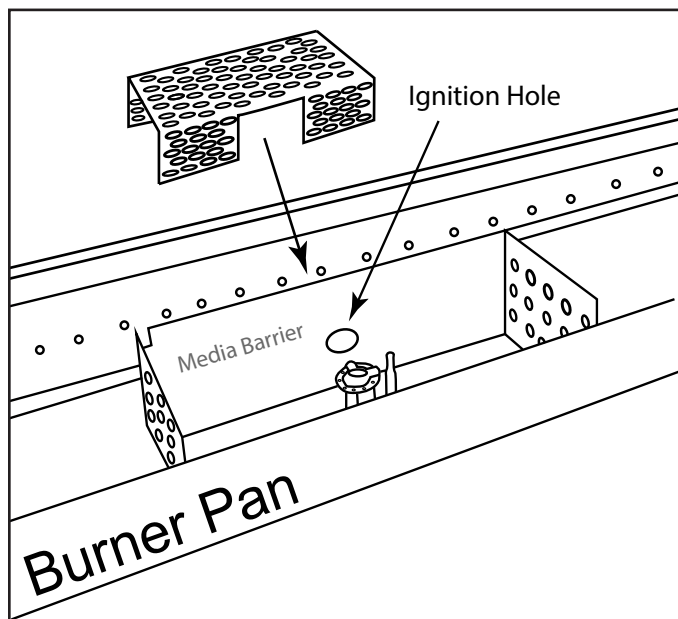

Fig. 31 Installing ignition screen.
Step 21: Install ignition screen (from parts box) overtop of the burner tube with the cutout area centered behind the pilot box ignition hole as shown in Figure 31. The ignition screen sit on top of the burner tube.
Test fire the fireplace before installing media to ensure flame is passing through igniton hole as shown in Figure 31, page 23. This is a good time to double check for any gas leaks or electrical connections before finalizing the installation by installing the glass media.